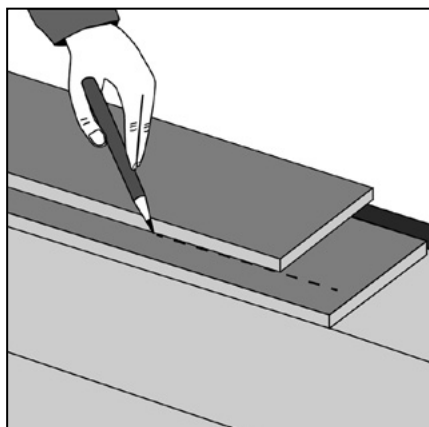

Figure 29 Last row
- > Lay these planks on top of the installed row (fig 29). Hold them firmly in place. Then line up a third plank on top. Use the edge of this plank to mark the cutting line with a pencil on the plank beneath (minimum width 50mm). Carefully scribe along this line with the utility knife. Remember to place a spacer to the wall before measuring to ensure the correct expansion gap is left. After scribing, cut the planks lengthwise using a handsaw or jigsaw.